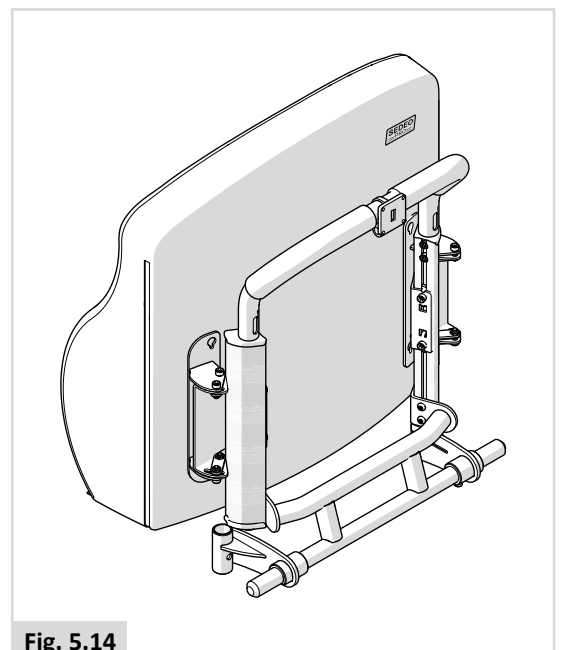

Fig. 5.14
- Sedeo Pro Back Cushion Flexible (Fig. 5.14)